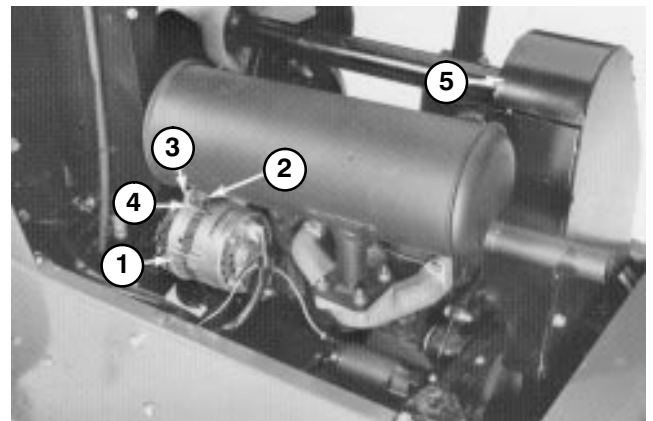

Figure 50
3. Loosen bolt securing brace to engine and bolt securing alternator to brace (Fig. 50).
4. Insert pry bar between alternator and engine and pry out on alternator (Fig. 50).
2. Remove capscrews (5) securing fan belt guard and remove guard (Fig. 50).
5. Install fan belt guard and secure with capscrews (Fig. 50). Close and latch hood.
4. Install fan belt guard and secure with capscrews (Fig. 50). Close and latch hood.